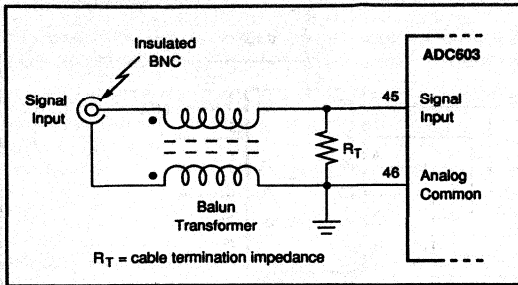
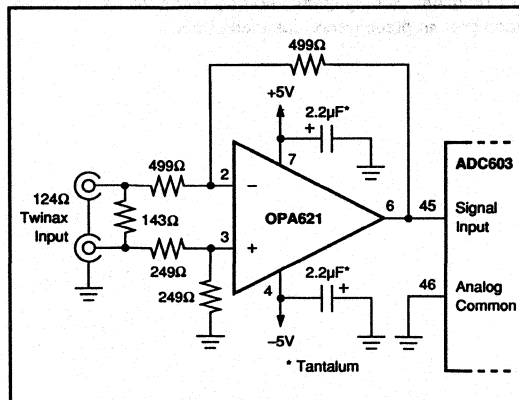

FIGURE 7. Floating-Input Balun Transformer.
FIGURE 9. Differential Input Buffer Amplifier (Gain = -1V/V).
13. Floating inputs can eliminate ground-loop noise. A simple common-mode choke (balun) shown in Figure 7 and 8, or a differential amplifier (Figure 9 and 10) can reduce analog input noise.